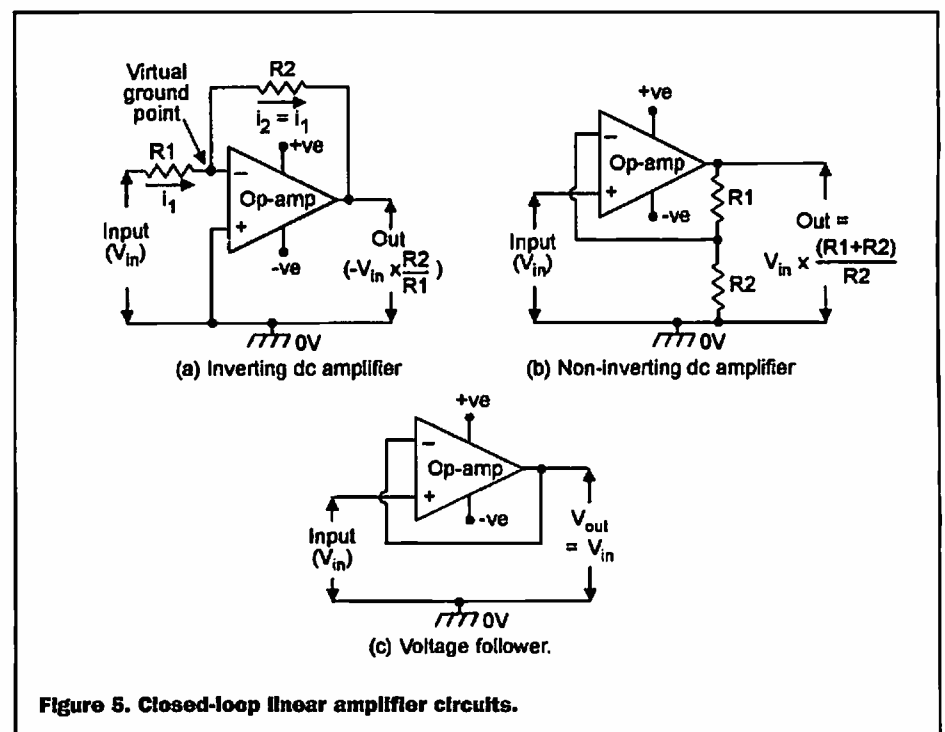

Figure 5. Closed-loop linear amplifier circuits.
Figure 5(b) shows how to connect the op-amp as a fixed-gain non-inverting amplifier. In this case the voltage gain equals $(R1+R2)/R2$, and the input impedance approximates $(A_o/A)Z_{in}$, where Z_{in} is the
open-loop input impedance of the op-amp. The above circuit can be made to function as a precision voltage follower by connecting it as a unity-gain non-inverting amplifier, as shown in Figure 5(c), where the op-amp operates with 100% negative feedback. In this case the input and output signal voltages are identical, but the input impedance of the circuit is very high, approximating $A_o \times Z_{in}$.
The basic op-amp circuits of Figures 5(a) to 5(c) are shown as dc amplifiers, but can readily be adapted for ac use by ac-coupling their inputs. Op-amps also have many applications other than as simple linear amplifiers. They can be made to function as precision phase splitters, as adders or subtractors, as active filters or selective amplifiers, and as oscillators or multivibrators, etc. Some of these
The most useful way of using an op-amp as a linear amplifier is to connect it in the closed-loop mode, with negative feedback applied from the output to the input, as shown in the basic dc-coupled circuits of Figure 5. This technique enables the overall gain of each circuit to be precisely controlled by the values of the external feedback components, almost irrespective of the op-amp characteristics (provided that the open-loop gain, A_o , is large relative to the closed-loop gain, A).
Figure 5(a) shows how to wire the op-amp as a fixed-gain inverting dc amplifier. Here, the gain (A) of the circuit is dictated by the ratios of R1 and R2 and equals $R2/R1$, and the input impedance of the circuit equals the R1 value; the circuit can thus easily be designed to give any desired values of gain and input impedance.
Note in Figure 5(a) that although R1 and R2 control the gain of the complete circuit, they have no effect on the parameters of